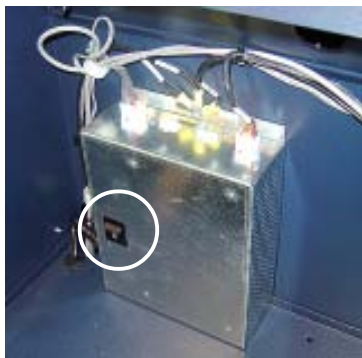

Figure 1. Power switch location.
1. Refer to Figure 1. Unlock and open the control panel. Verify that the power switch is in the OFF (0) position. Close the control panel.